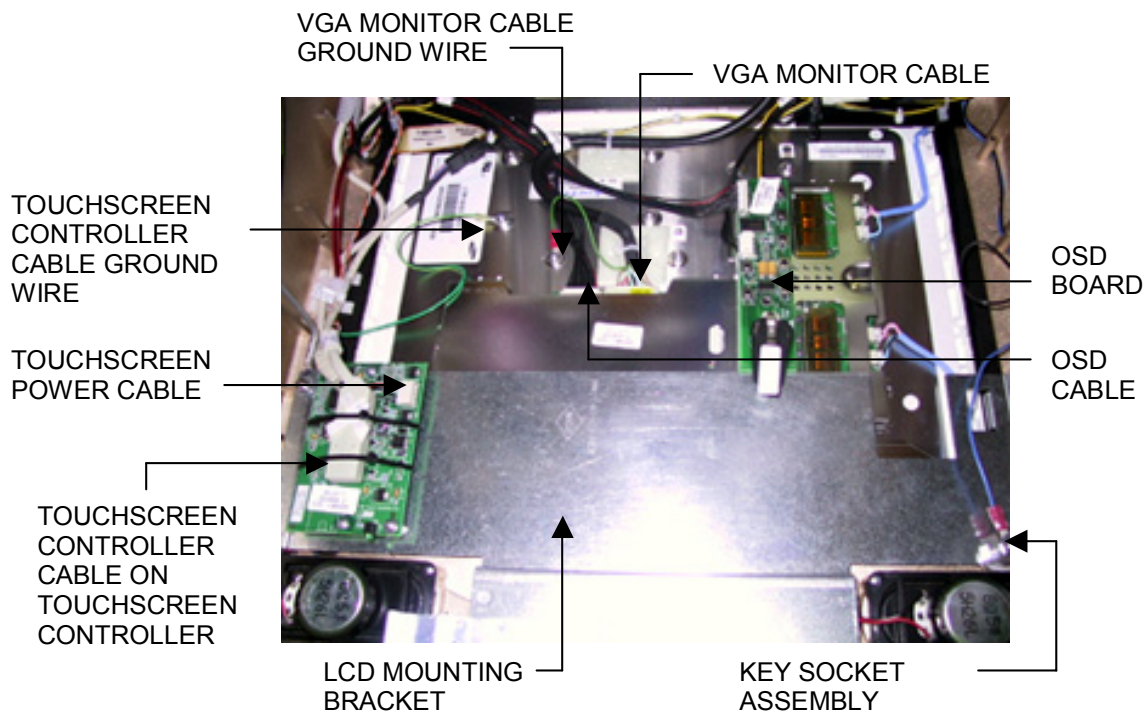

FIGURE 1 - CLOSE-UP OF CPU SECTION
3. Remove the screw and washer fastening the strain relief cord, then remove the remaining 5 screws fastening the LCD mounting bracket to the game. The key socket ground wire will also be removed in the process. See Figure 1.
4. Remove the nut, wire and bolt from the key socket assembly located on LCD mounting bracket, then remove the bracket. See Figure 1.
5. Carefully cut the tie wraps around the VGA monitor cable and remove the ground wire. Disconnect the cable from the monitor and the motherboard. See Figure 1. Unscrew the bracket on the underside of the I/O board to release the cable.
6. Remove the OSD cable from the twist clamp and disconnect it from the OSD board and the monitor. Then remove the OSD board from the Velcro attached to the back of the monitor and set it aside. See Figure 1.
8. Carefully cut the tie wrap around the touchscreen controller cable and disconnect the cable from the touchscreen controller. Also remove the ground wire. See Figure 1.
9. Disconnect the touchscreen power cable from the touchscreen controller (see Figure 1), then disconnect the Molex connector identified by the orange and gray wires.
4. Install the supplied LCD mounting bracket and fasten it to the game with the 6 screws. One screw (and washer) will fasten the strain relief cord, while another will secure the blue ground wire for the key socket. See Figure 1.
5. Replace the key socket assembly by securing the bolt, green wire and nut over the LCD mounting bracket. See Figure 1.
6. Connect the touchscreen controller cable to the touchscreen controller and secure it with a tie wrap. Also restore the touchscreen controller cable ground wire. See Figure 1.
7. Connect the touchscreen power cable to the touchscreen controller (see Figure 1) and reconnect the Molex connector (orange and gray wires).
9. Reattach the OSD board to the Velcro on the back of the monitor, then connect the new OSD cable to both the OSD board and the monitor. See Figure 1. Secure the cable in the twist clamp.